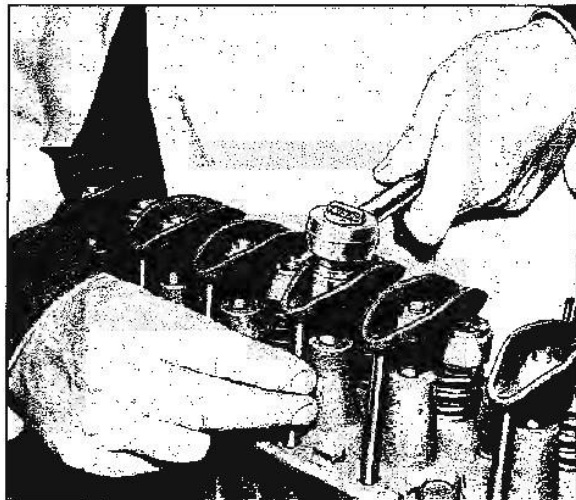

Fig. 6-15 Adjusting Valve Lifter Plunger Travel
2. With lifter on base circle of camshaft, turn rocker arm down until valve train play is removed. Turn nut down one additional turn (Fig. 6-15).
4. With lifter on base circle of camshaft, tighten rocker arm nut until valve train play is removed. Turn nut down one additional turn (Fig. 6-15).
6. Install rocker arms, balls and nuts and tighten rocker arm nuts until all push rod play is taken up (Fig. 6-15).